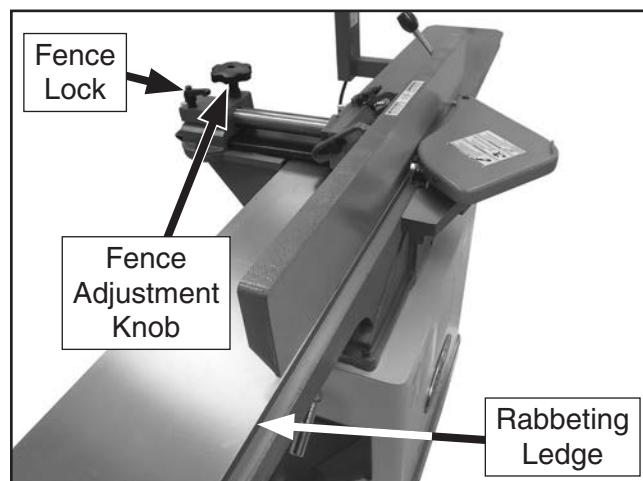

Figure 22. Fence positioned flush with rabbeting ledge.
18. Loosen fence lock and rotate fence adjustment knob to position fence flush with rabbeting ledge, then tighten fence lock to secure position (see **Figure 22**).
19. Check to make sure fence is parallel with rabbeting ledge (see **Figure 22**).